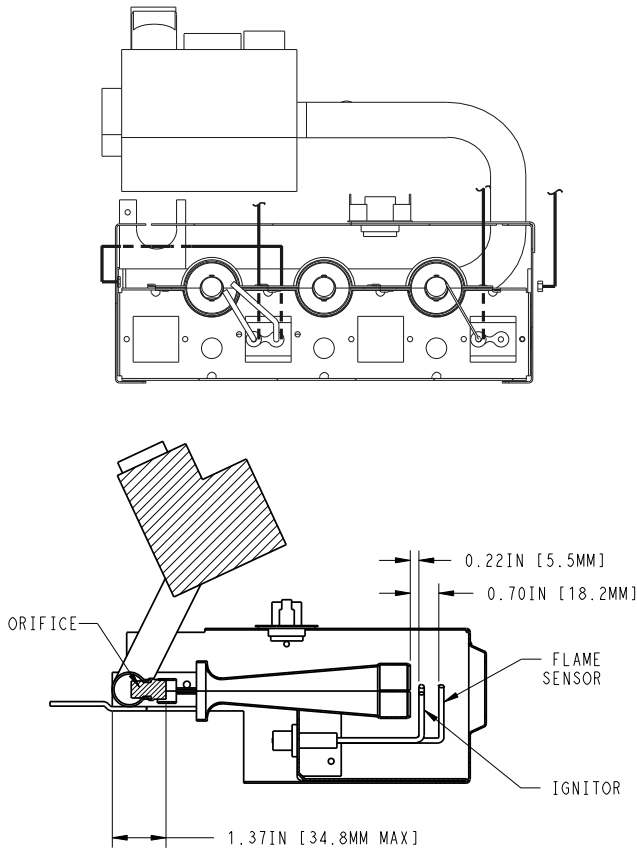

Fig. 9 – Two-Stage Igniter, Flame Sensor, Orifice/Main Burner Relationship A07889
13. Remove the natural gas orifices from the manifold using a 9/16 in. wrench and install the correct propane gas orifices in the manifold (See Table 8 to select correct orifice size based on rated input. See Fig. 9 and Fig.12 for orifice installation).
23. Verify igniter, flame sensor, orifice/main burner relationship prior to completing conversion. (See Fig. 9.) Partially slide burner rack assembly into unit.